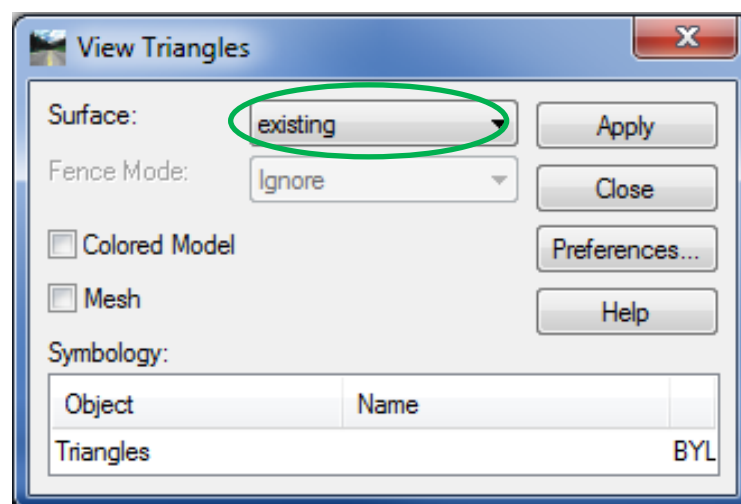

Figure 2-3 InRoads View Triangles Dialog Box
- E. On the InRoads Main Menu Bar click on **Surface > View Surface > Triangles** (Figure 2-3).